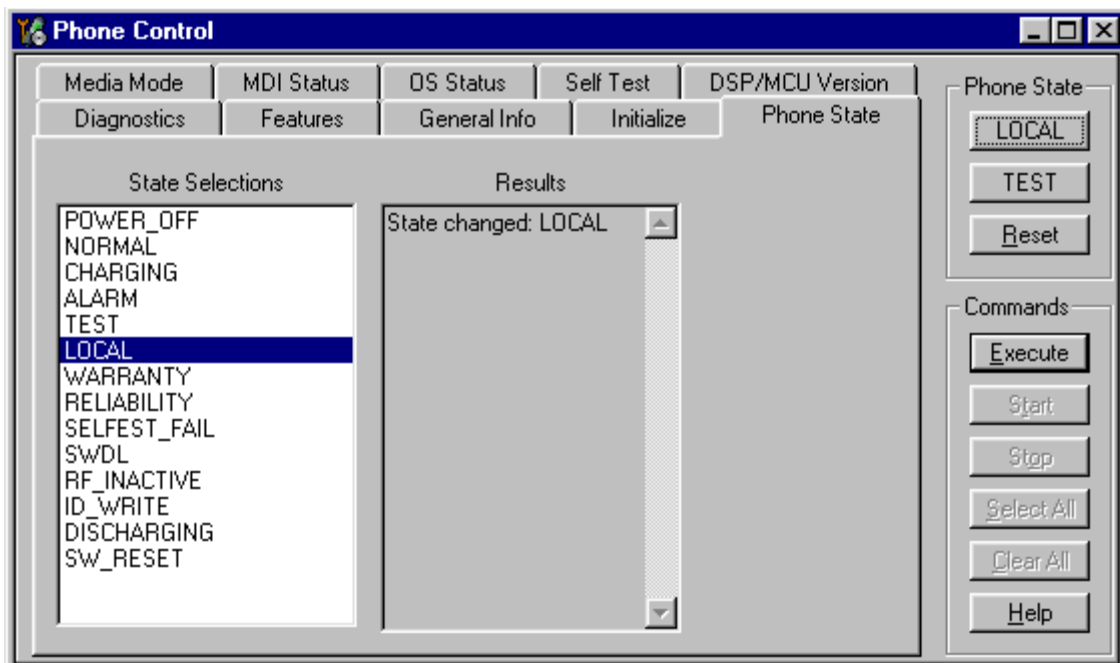

Figure 7: Phone Control dialog box
1. On the **Phone Control** dialog box, click the **LOCAL** button in the **Phone State** area to put the phone into Local Mode. (See Figure 7 on page 13.)
2. Click the **LOCAL** button in the **Phone State** area to put the phone into Local Mode. (See Figure 7 on page 13.)